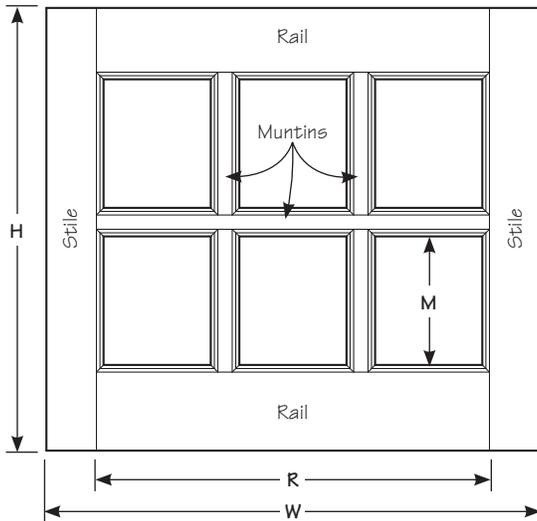

Figure 7: Piece part lengths.
1. Prepare the frame rails and stiles, as well as extra pieces to be used for router set-up. All pieces must be flat and of consistent thickness. For small frames assembled with a coped joint, the length of the rails is equal to the visible width of the rails (dimension R shown in **Figure 7**). For large frames assembled with tenons, the length of the rails is equal to the outside width of the frame (dimension W). The length of the stiles is equal to the outside height of the frame, regardless of the type of joint (dimension H).
Cut the muntins to length. The cut length of each muntin matches the visible length in the final assembly (dimensions M and R shown in **Figure 7**).